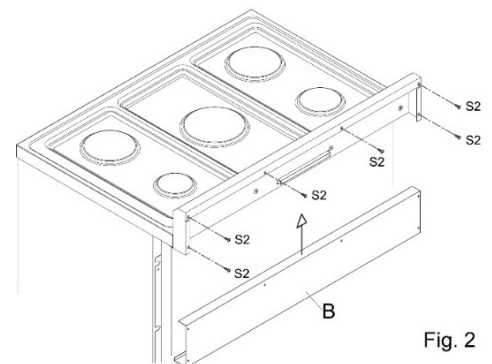

Fig. 2
3. Insert from below part B and fix the screws S2 as in fig.2.